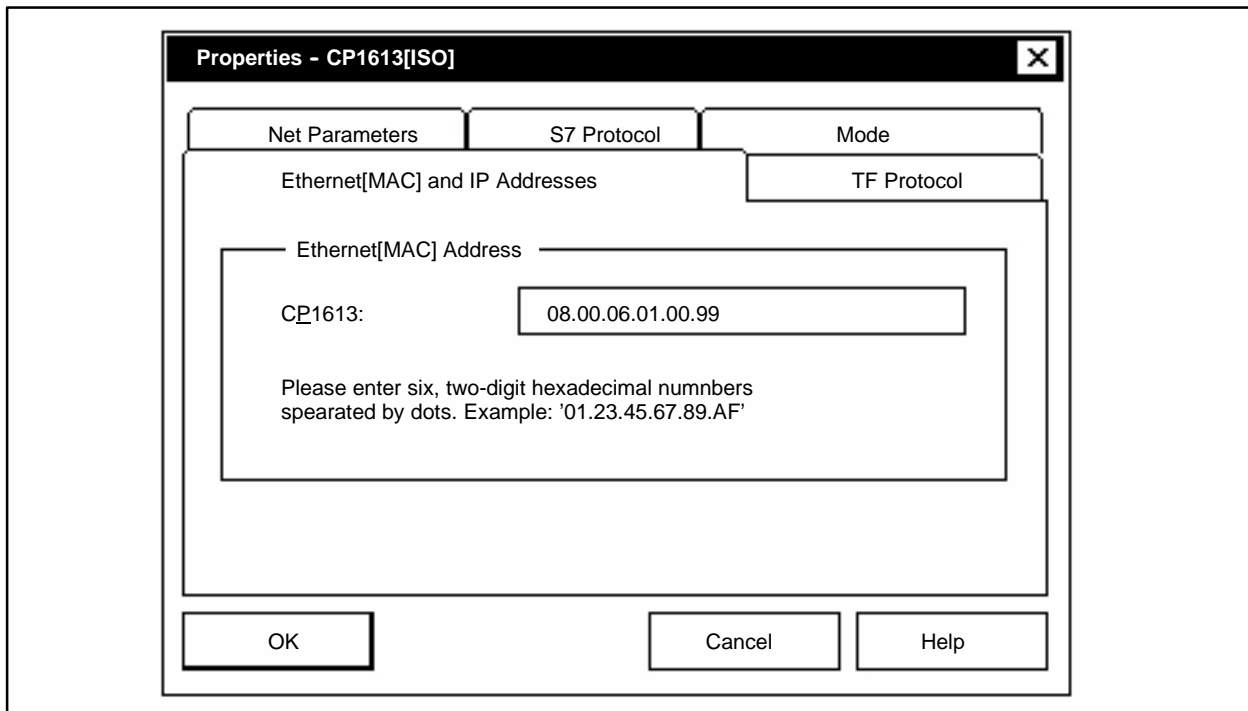

Figure B-16 Configuring the CP1613 Card Properties
3. Click the **Properties** button. The Properties dialog box appears (Figure B-16).